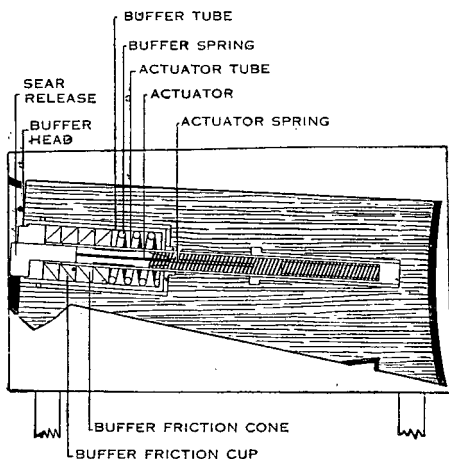

FIGURE 11.—Wooden working model of the combination buffer and rate-reducing mechanism.
■ **22. FUNCTIONING OF COMBINATION BUFFER AND RATE REDUCING MECHANISM (fig. 11).**—*a. Parts.*—The buffer and rate reducing mechanism consists of the following parts in the order given from front to rear: